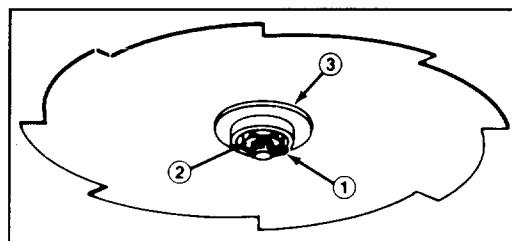

Figure 3
INSTALLING OPTIONAL CUTTER BLADE (Figs. 3 & 4)
5. Insert cotter pin through hole in shaft and wrap ends around shaft (Fig. 3).
To prevent blade from loosening and causing possible personal injury, insert a new cotter pin through hole in shaft and wrap ends around shaft (Fig. 3).